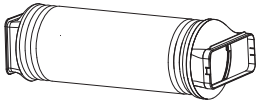

Figure 9
9. Finish the assembly of unit adaptor and window slider adaptor to both ends of the exhaust hose as shown in Figure 9.